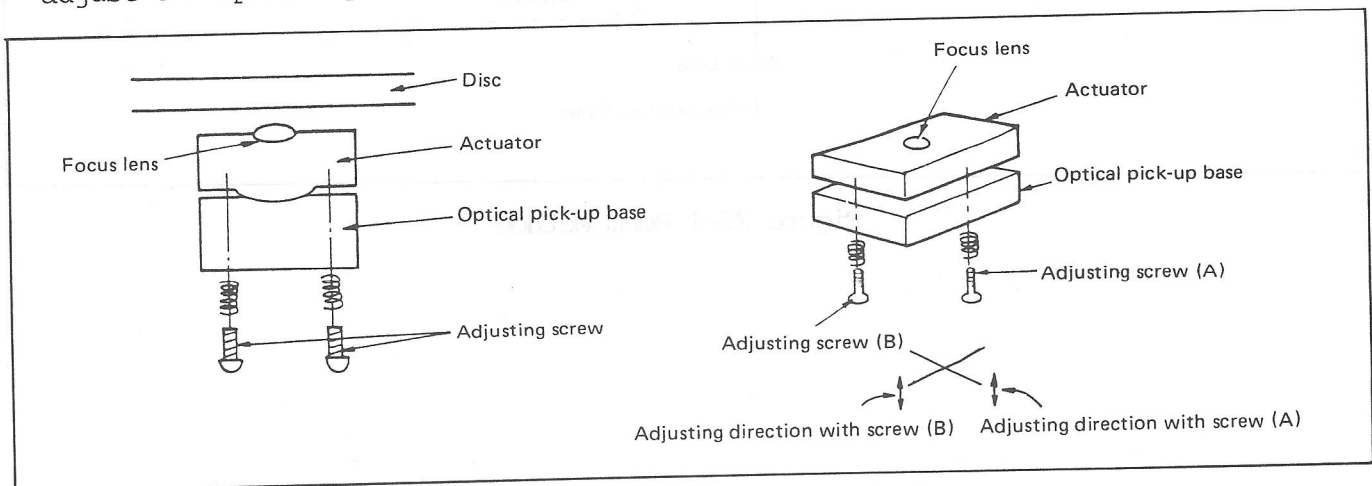

Figure 22-4
To accomplish the above condition, it is necessary to adjust Hex screws (A) and (B) as shows in figure 22-4.